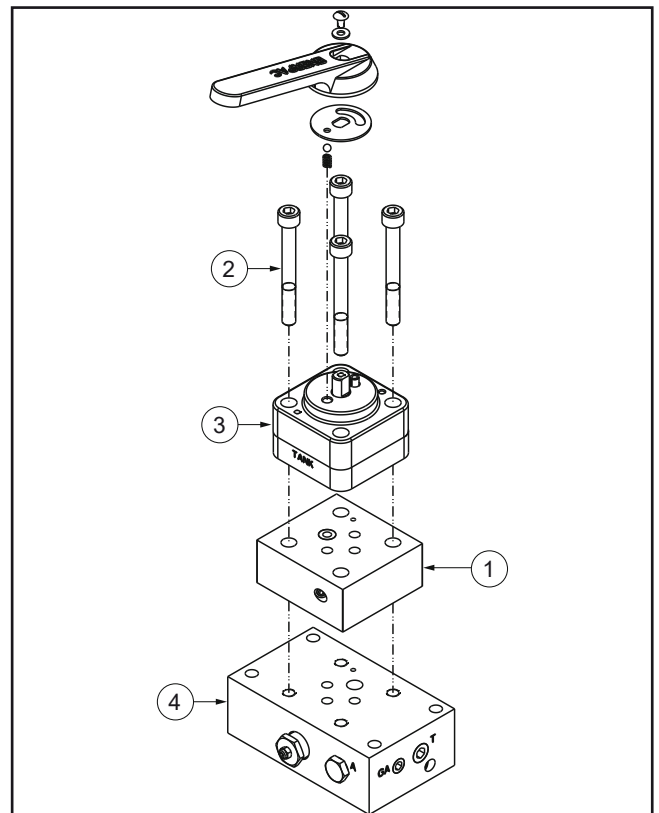

Figure 2: VUV6MSR Assembly
1. Mount the vacuvalve block (Item 1, Figure 2) included in the kit between the valve (Item 3, Figure 2) and the manifold (Item 4, Figure 2).
2. Mount and tighten the 4 M10x100 screws (Item 2, Figure 2) included in the kit.